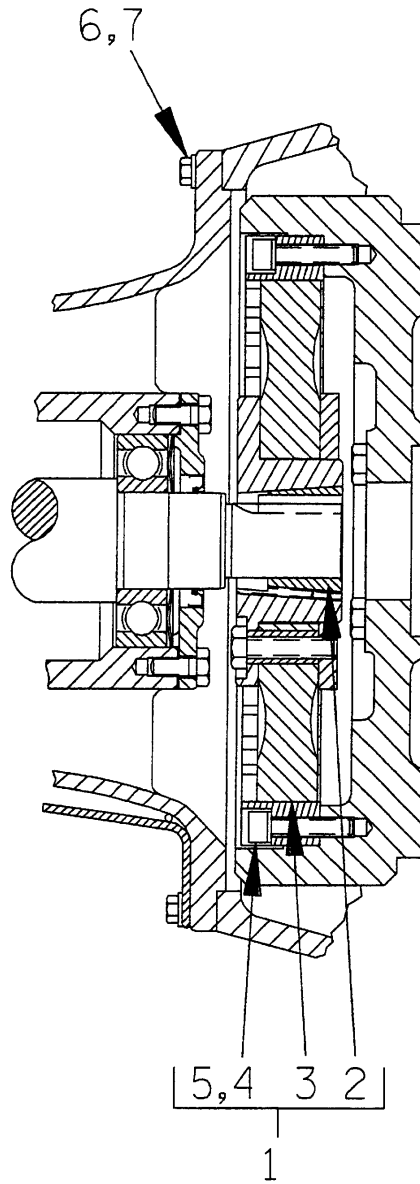

Figure 3. 84A2--(SAE 4/10) Drive Assembly
(Figure 3)
Install the shaft key (26, Figure 2) in the shaft keyway. Position the flexible portion of the coupling assembly (3) on the shaft as shown in Figure 3.